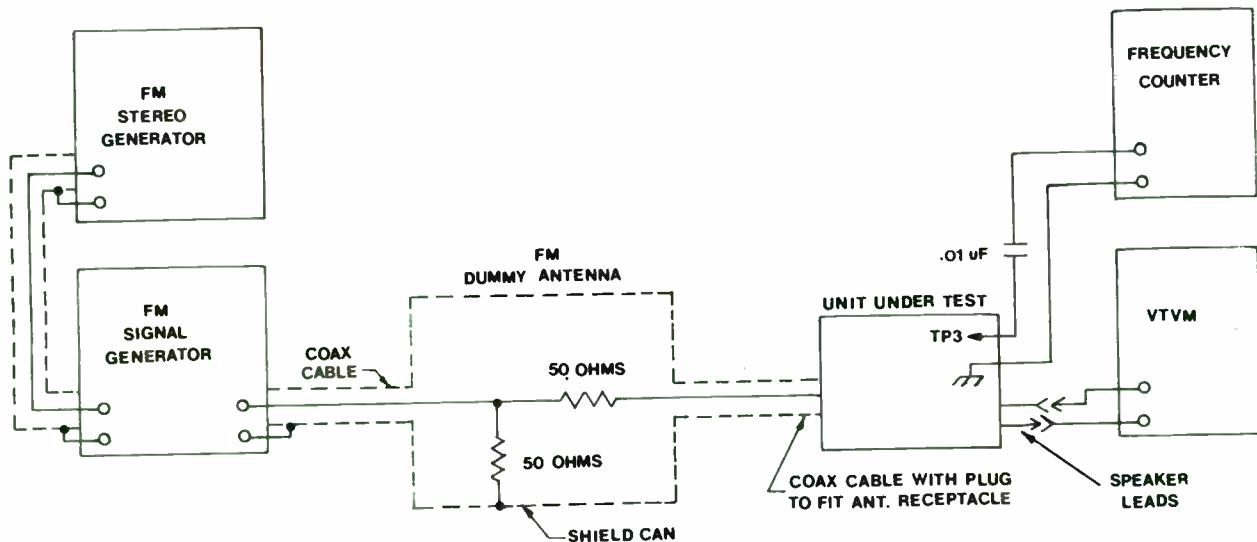

Figure 9 – Test connections for FM RF alignment
- Dummy Antenna (See Fig. 9)
- A. With connections as shown in Fig. 9, modulate FM signal generator by FM stereo generator as follows: